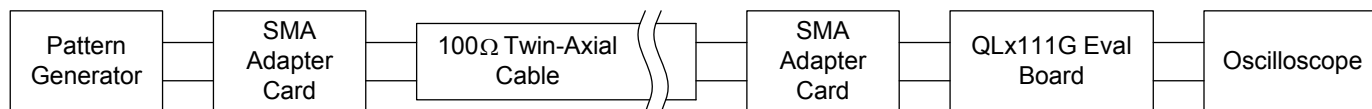
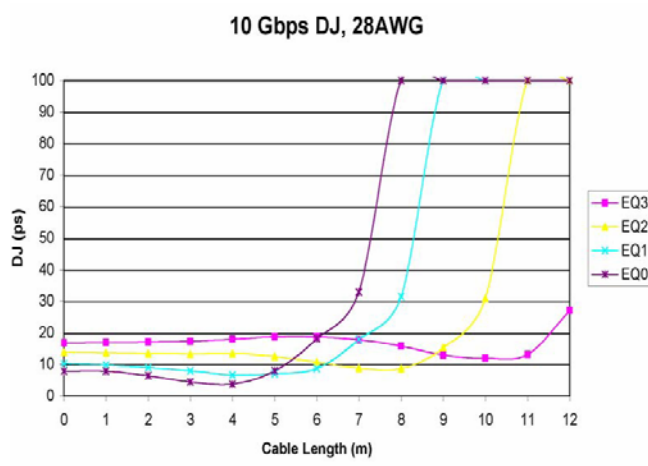

FIGURE 1. DEVICE CHARACTERIZATION SET UP
FIGURE 2. JITTER vs CABLE LENGTH AT 10Gb/s
Performance is measured using the test setup illustrated in Figure 1. The signal from the pattern generator is launched into the twin-ax cable using an SMA adapter card. The chip evaluation board is connected to the output of the cable through another adapter card. The QLx111GRx output signal is then visualized on a scope to determine signal integrity parameters such as jitter (Note 7).
- Prior to the tapeout, the data in Figures 2 and 3 represents simulations approximating the conditions of setup in Figure 1, not measured data.